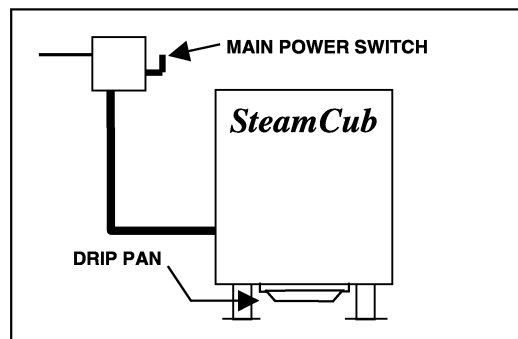

Figure 2-1 Main Power Switch
- Refer to the main power switch in Figure 2-1, and turn on electric power to the steamer.